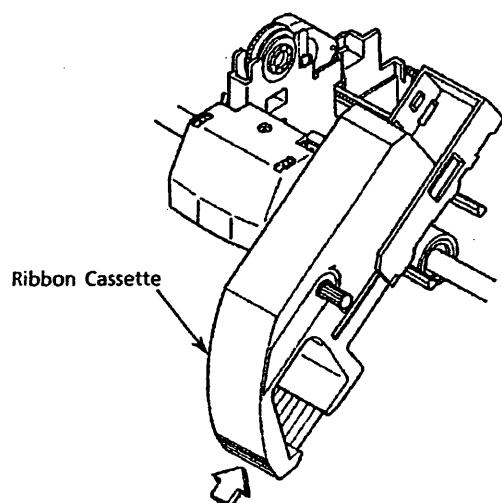
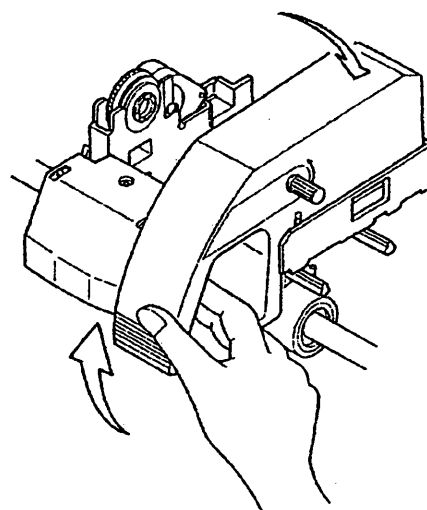

Figure 6.1.14
Figure 6.1.15
- 5) Insert the ribbon cassette into the holder (Figure 6.1.14), and return it to a horizontal position (Figure 6.1.15).
- 6) Raise the ribbon cassette front and return to level (Figure 6.1.15).